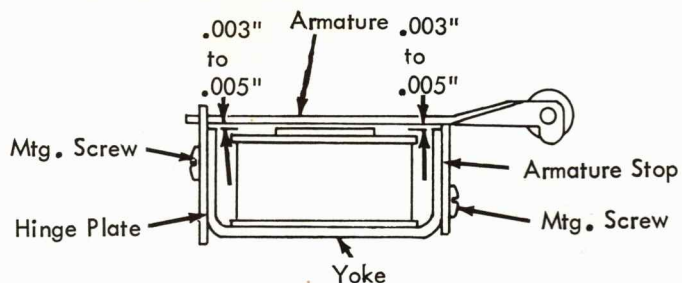

FIGURE 201. Magnet Adjustments (1 Magnet)
3. Magnet Adjustments (1 Magnet) (Fig. 201) - With the red shift magnet armature energized, position the hinge plate and armature stop so that the armature clears the yoke (both inner and outer poles) by .003" to .005".